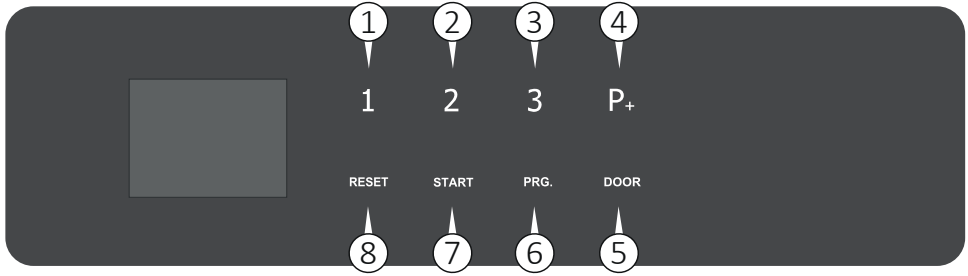

Fig. 16
To select the programs available, use key P1, P2 or P3 (see Fig. 16) depending on the most suitable program for the level of dirt of the load.
- Open the door (key 5 Fig. 16) to introduce the rack/trolley.
- Close the door and push it until the lock is activated. The door can be unlocked and opened at any time before the program starts, by pressing the DOOR key (5 Fig. 16).
To select the programs available, use key P1, P2, P3 or the key P+ (to select programs from 4 to 40) on the control panel (Fig. 16).
To start a program, press the START key (7 Fig. 16).
The message «Finish» with a green background on the display indicates that the program has been carried out correctly. Unlock the door by pressing the DOOR key (5 Fig. 16) and open it.
### Description of the control panel (Fig. 16):
Press the selected key (P1 or P2 or P3 Fig. 16) on the control panel. To access subsequent programs (if stored), press the key «P+» several times.
4) Optional: enter the user password: use the key P1, P2, P3, RESET, START and PRG on the control panel to digit the correct password (See Fig. 16 for key description).